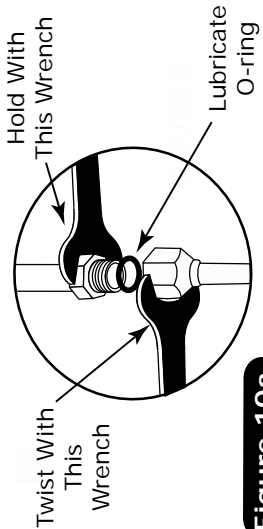

Figure 10a
3. On a workbench, install evaporator rear bracket and hardlines with properly lubricated O-rings (See Figure 10a, Page 14 and Figure 15, Page 18).
1. Locate the #10 compressor A/C hose. Lubricate (2) #10 O-rings (See Figure 10a, Page 14) and connect the 90° fitting to the #10 suction port on the compressor, and then route the straight fitting to the #10 evaporator hardline coming through the firewall (See Figure 10, Page 14). Tighten each fitting connection as shown in Figure 10a, Page 14. **NOTE: The #10 A/C hose 90° fitting at the compressor must be installed below the #8 135° hose fitting. This needs to be done so the air filter box is not pushed out of position by the #10 A/C hose. In some cases the fuel filter may block the routing of the #10 hose, if so the fuel filter will have to be relocated to clear the routing of the #10 hose. Wrap the #10 fitting connections at the firewall with press tape (See Figure 10, Page 14).**
2. Locate the #8 compressor A/C hose. Lubricate (2) #8 O-rings (See Figure 10a, Page 14) and connect the 135° fitting to the #8 discharge port on the compressor, and then route the 45° fitting to the #8 condenser hardline on the fender well (See Figure 10, Page 14). Tighten each fitting connection as shown in Figure 10a, Page 14.
3. Locate the #6 evaporator/core hardline. Lubricate (2) #6 O-rings (See Figure 10a, Page 14) and connect the hardline to the #6 drier/core hardline on the fender well from the drier. Attach the other end of the hardline with lubricated O-ring to the #6 evaporator hardline coming through the firewall (See Figure 10, Page 14). Tighten each fitting connection as shown in Figure 10a, Page 14. Use a #2 Adel clamp to secure the #6 evaporator/core hardline to the inner fender well as shown in Figure 10, Page 14. Secure the Adel clamp to the inner fender using a #10 x 1/2" sheet metal screw.